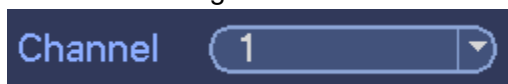

Figure 4-20
- Select a channel you want to set. See Figure 4-20.